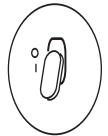

Figure 2
7. Press the ON/OFF Lever down, to the ON (I) position (see Figure 2). The Power Indicator Light will illuminate.